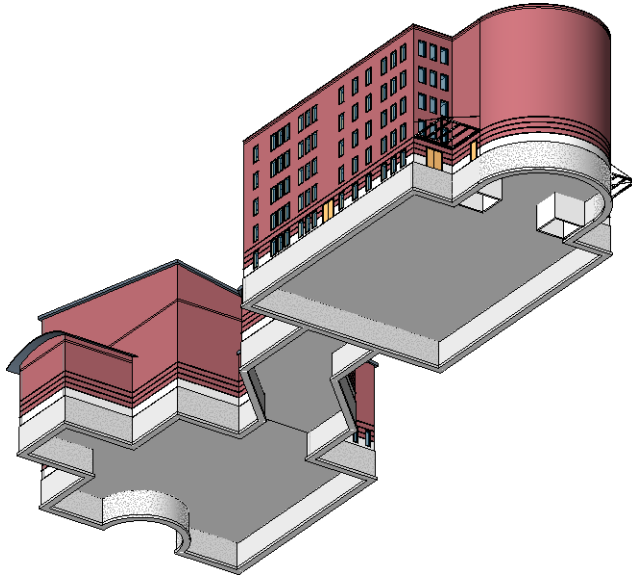

FIGURE 8.60: Doing a 3D investigation to see whether the footings are all in place
- 8. When you're finished picking the walls, go to a 3D view to make sure all the foundations are covered, as shown in Figure 8.60.